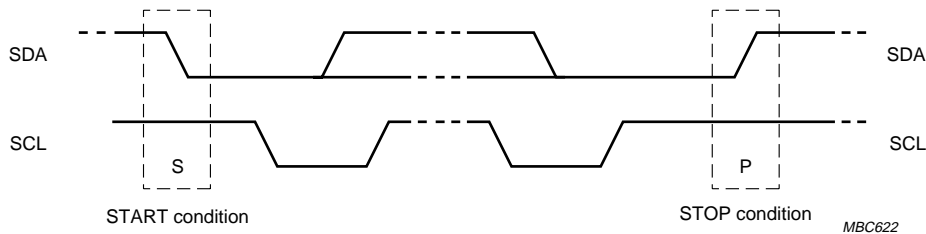

Fig.14 START and STOP condition.
Both data and clock line will remain HIGH when the bus is not busy. A HIGH-to-LOW transition of the data line while the clock is HIGH is defined as a START condition (S). A LOW-to-HIGH transition of the data line while the clock is HIGH is defined as a STOP condition (P); see Fig.14.